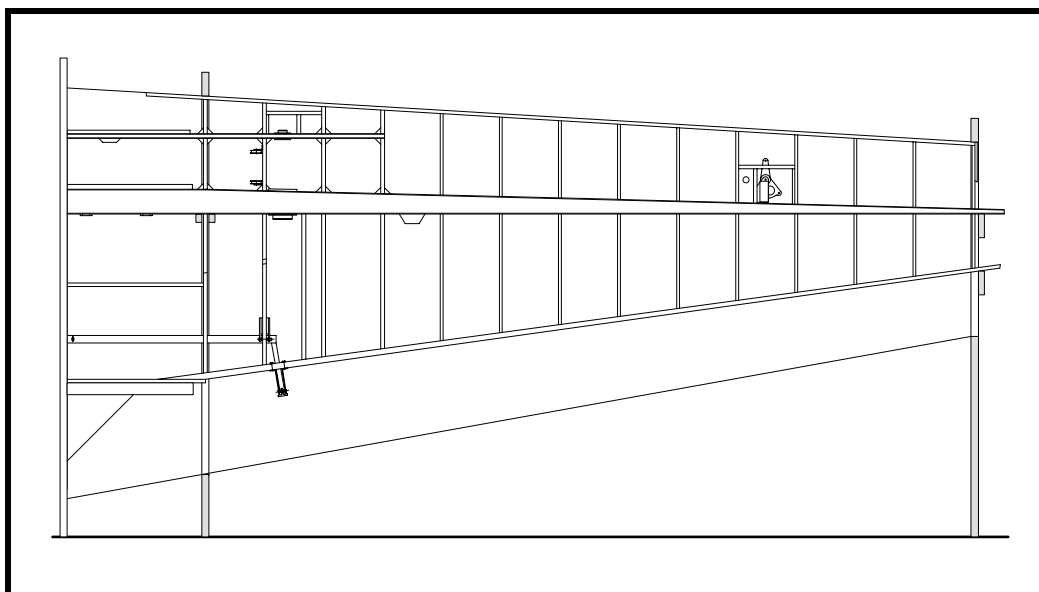

Figure 17
- ❑ Glue Sta. 2, 2-1/2 and 3 wing ribs to the main wing spar. While clamping, check to make sure that the flap torque tube swings easily on the supports. See Figure 17.